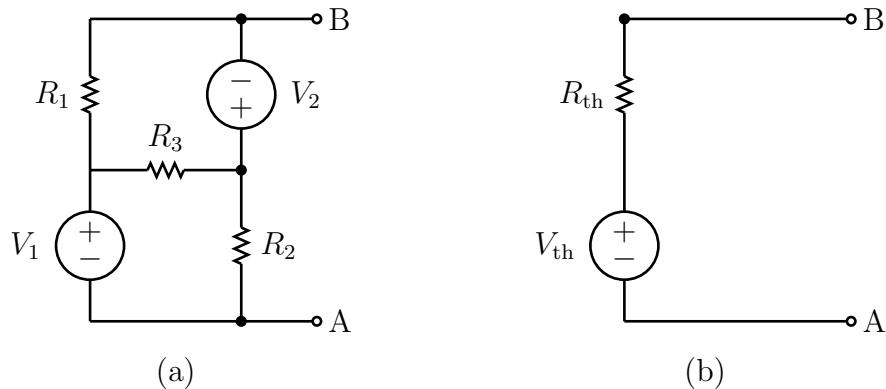

Figure 3.1: The circuit (a) you will be building in lab and it's (b) Thevenin Equivalent.
1) Determine an equation for the Thevenin equivalent voltage V_{th} and resistance R_{th} from the values V_1, V_2, R_1, R_2, R_3 for the circuit shown in Fig. 3.1. Hint: Use the superposition principle. Find the equivalent resistance by setting the voltage V_1 and V_2 to zero, i.e. shorting them in the circuit. Then calculate two contributions to the Thevenin voltage, one with V_1 set to zero and one with V_2 set to zero. The actual Thevenin voltage is the sum of these two contributions. Play close attention to the polarity of V_2 as drawn, i.e. that a positive value of V_2 tends to make the voltage V_{ab} negative.
Build the circuit in Fig. 3.1 using $R_1 = 3.3 \text{ k}\Omega$, $R_2 = 3.9 \text{ k}\Omega$, and $R_3 = 4.7 \text{ k}\Omega$. Supply $V_1 = 10 \text{ V}$ and $V_2 = 5 \text{ V}$ using your two channel bench-top power supply. In the diagram, the supplies are not referenced to ground or each other, so make certain that your supply is set to provide independent outputs and do not add any jumpers to ground. Take careful note of the polarity of the supplies, so